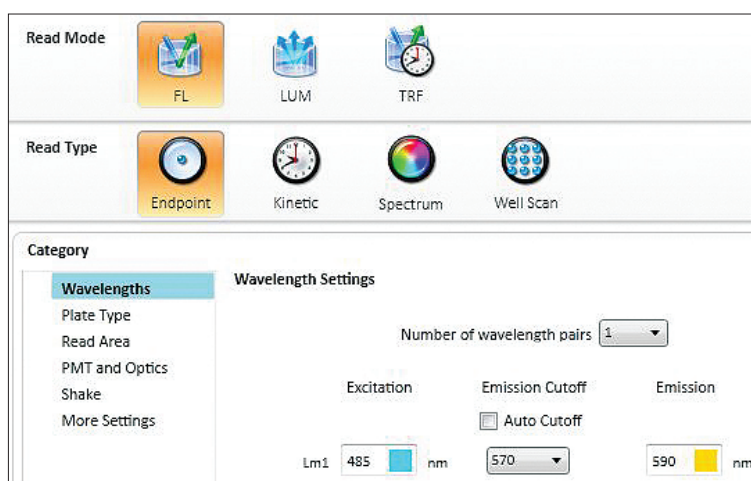

Figure 1. Plate reader settings for NanoOrange assay. Typical settings for SpectraMax readers with fluorescence detection mode are shown.
Step 3: Click "Settings" and a screen will appear (Figure 1). First choose Read Mode 'FL' and Read Type 'Endpoint', and then select wavelengths: Excitation 485 nm, Emission Cutoff 570 nm, and Emission 590 nm. Continue down the Category panel at the left side of the Settings window to select parameters appropriate to the assay plate type, wells to read, etc. For PMT and Optics, Automatic PMT Gain is recommended. The number of flashes per read should be set to at least 20 (more flashes may offer greater precision but will lengthen the read time).